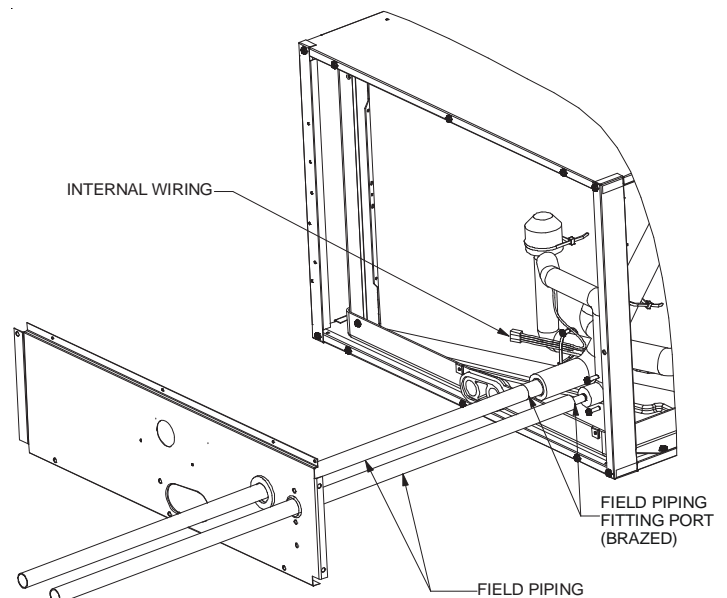

Figure 8
- Slide bottom front panel along field tubing while cautiously guiding component wiring back through panel wire-way. (See Figure 8.)